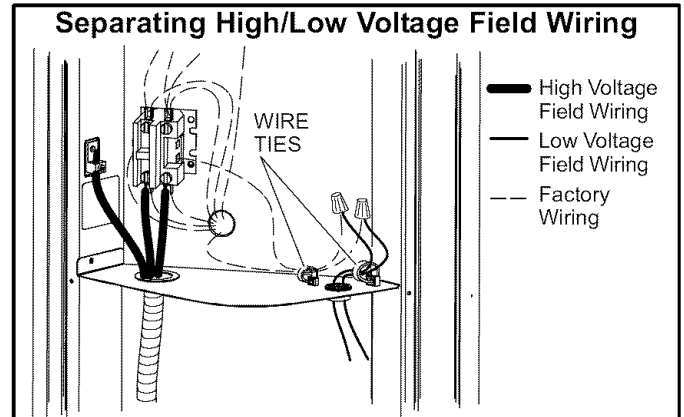

Figure 2
2. Install line voltage power supply to unit from a properly sized disconnect switch. Any excess high voltage field wiring should be trimmed or secured away from the low voltage field wiring (see figures 2 and 3).